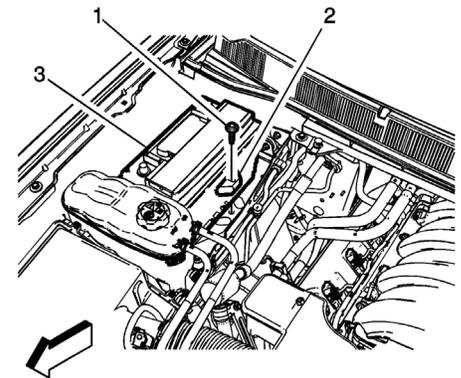

Fig. 4 Battery removal
5. Remove battery retainer fastener (1) and remove battery retainer (2), **Fig. 4**.
6. Remove battery (3) from vehicle, **Fig. 4**.
1. Install battery (3) into position on battery tray, **Fig. 4**.
2. Install battery retainer (2) and **torque** fastener (1) to 18 ft. lbs., **Fig. 4**.